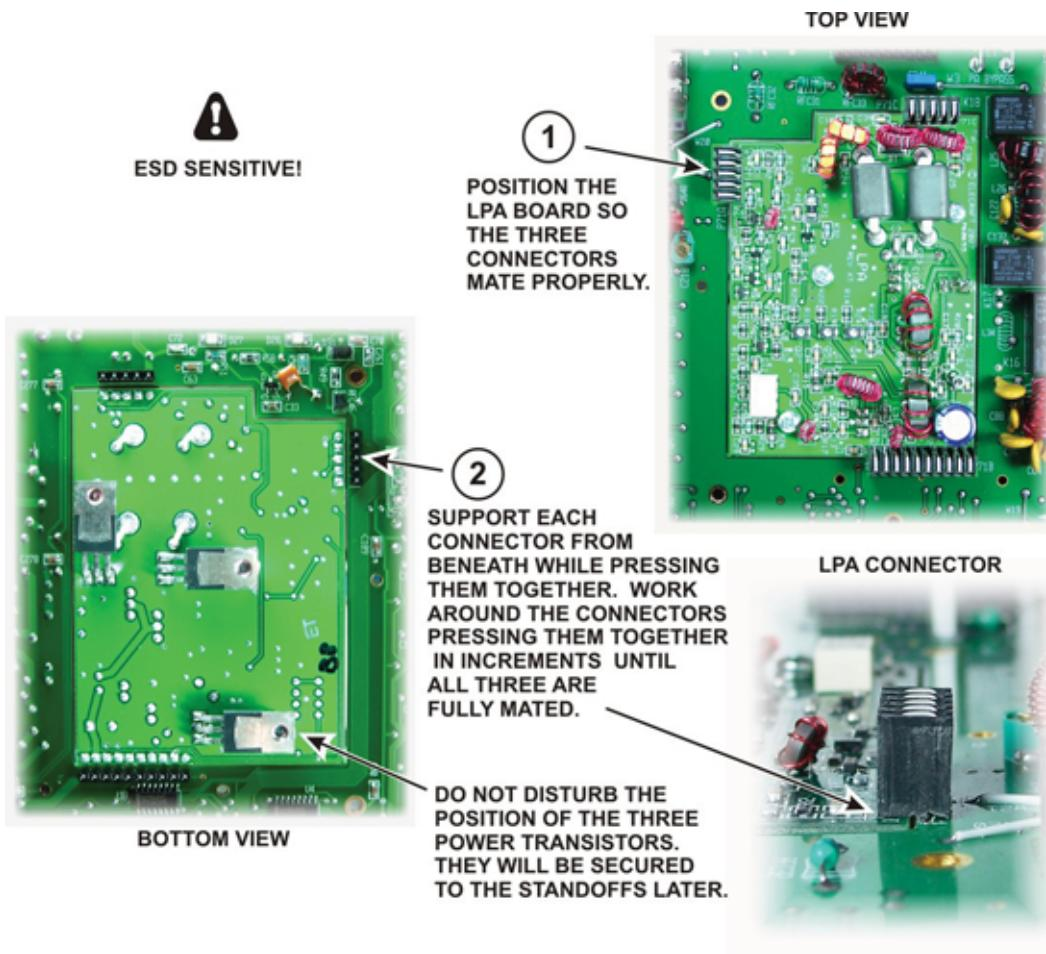

Figure 12. Installing the Low Power Amplifier (LPA).
- Install the Low Power Amplifier (LPA) board in the cutout on the RF board as shown in Figure 12. The LPA board is held in place by its connectors until the bottom cover is installed..
- Check all three LPA connectors shown in Figure 12 to ensure they are fully mated as shown. If they are not fully mated, the transistors will not rest against the K3 bottom cover as required when it is fitted later.